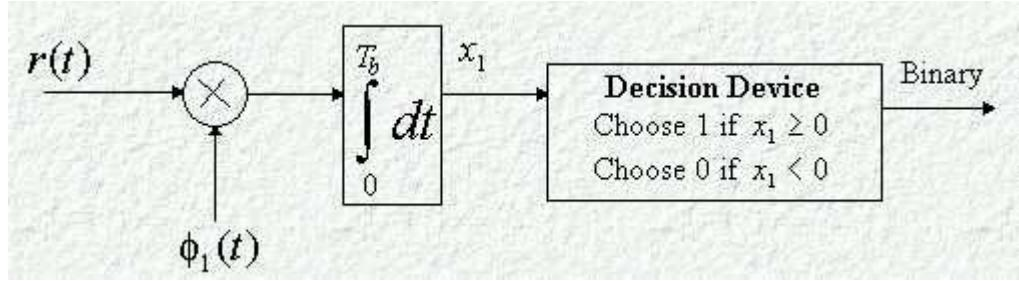

Figure 6.5 BPSK receiver
In Figure 6.5, we show the block diagram of a BPSK receiver. If there is no noise in the channel i.e.  $n(t) = 0$ , then for  $r(t) = s_1(t)$  i.e.  $n(t) = 0$ , then for  $r(t) = s_1(t)$ ,  $x_1 = +\sqrt{E_b}$  and  $x_2 = -\sqrt{E_b}$ .
For the receiver shown in Figure 6.5 The probability of error given that a binary ‘zero’ is transmitted and binary ‘one’ is detected can be written by the following mathematical expression
10. Detect the signal using the BPSK receiver given in Fig. 6.5